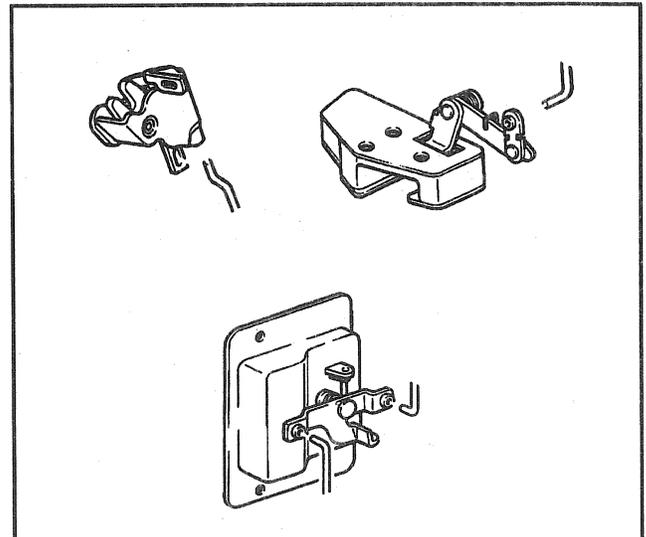

Figure 47—Linkage Attaching Points
2. Upper rod retainer (Figure 47).
3. Rod to handle assembly (Figure 47).
2. Rod from lower latch assembly (Figure 47).
2. Rod to handle assembly (Figure 47).